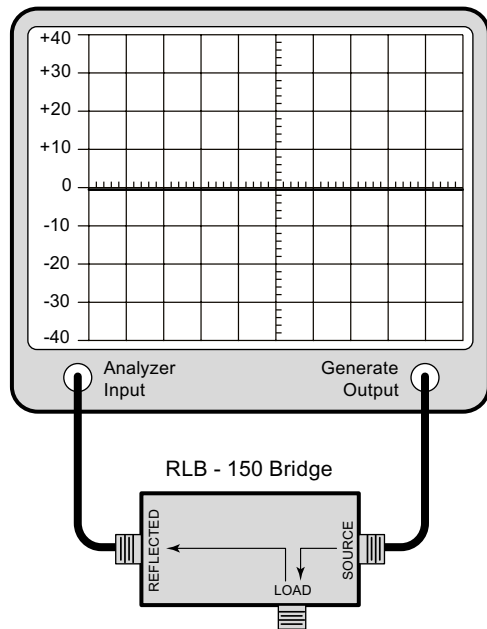

Figure 3: Setting the return loss reference.
1. A zero reference for return loss must be established at the IFR A-7550 prior to checking the passband frequency, this is done by connecting the return loss bridge to the analyzer / generator as shown in **Figure 3**.